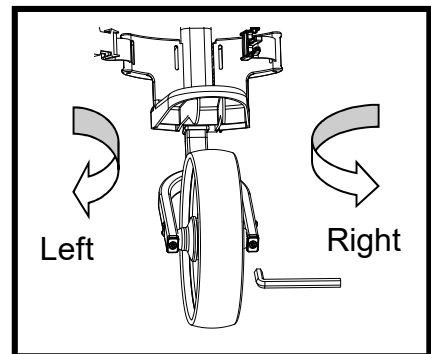

Fig .2
Assemble arm rod and mainly frame by 2pcs M6*38mm screws and nuts as Fig.2.
2.If the cart veers to the left, face the front wheel of the cart and use the Allen wrench provided to screw the right bolt counterclockwise or the left bolt clockwise until the front wheel is centered between the front fork.(Fig.2)